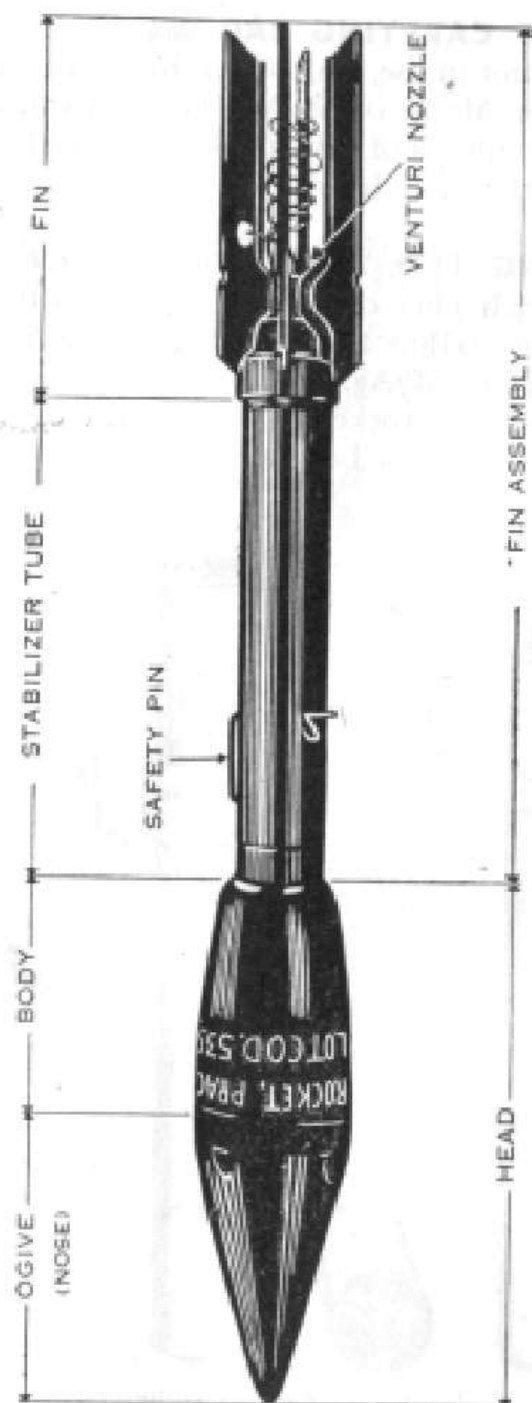

Figure 53. Practice antitank rocket, 2.36-inch, M7A1.
a. The rocket M7A1 (fig. 53) is identical in size, weight, and external appearance to the rocket M6A1 but contains no high-explosive charge in the body. It has the same propellant charge in the stabilizer tube for discharging it from the launcher.